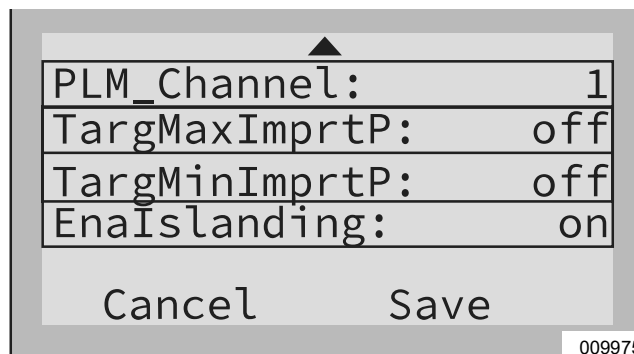

Figure 3-9. Enabling and Disabling Devices (1 of 3)
- See Figure 3-9. Verify the device status reads Disabled.